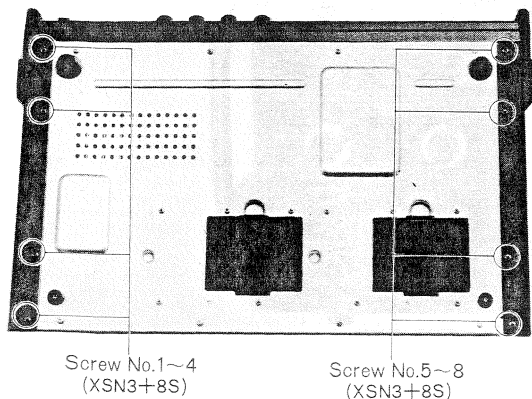

Fig. 4
4. Remove the eight (8) screws (nos. 1~8) for the cabinet cover, as shown in fig. 4.